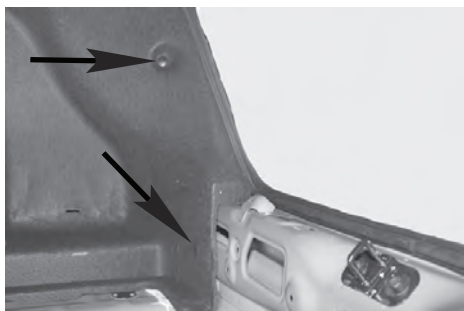

Figure 2
3. On both sides of vehicle use a pair of pliers to remove 4 push pins located on felt trunk liner shown in **Figure 2**.